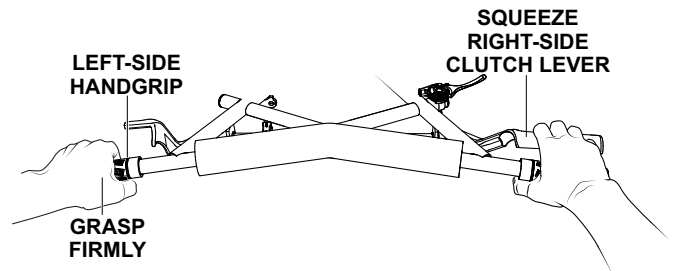

Figure 20. Engaging The Clutch
6. Firmly grasp the **left-side** handgrip, **squeeze and hold right-side** clutch lever (Figure 20) to engage the clutch.